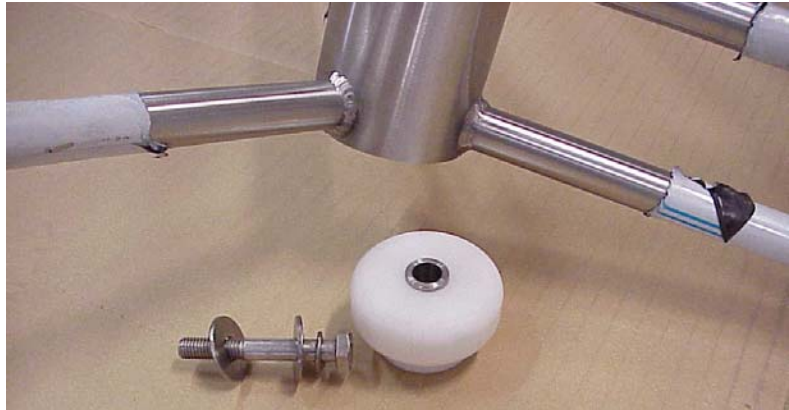

Fig. 10
- Put part 4 on the lower bearing, **see fig. 10 and 11** and screw it up by means of 4 x M16 x 40 with U-discs and flange. Be sure that the turnstile is in locked position. (Please consider the marking of the flanges!) see fig. 12